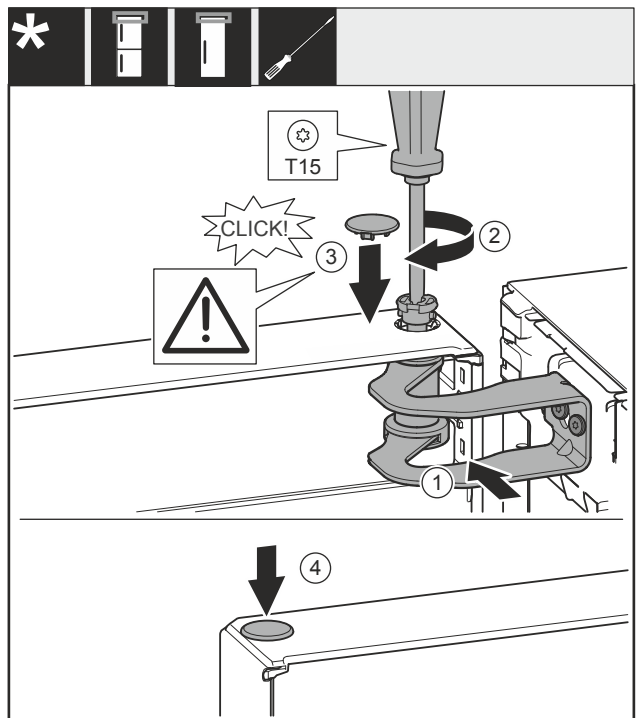

Fig. 57
- Align the door with the opening in the swap bearing block Fig. 57 (1).
- Insert the bolt Fig. 57 (2) and use screwdriver to tighten it.
- ▶ Insert the cover Fig. 57 (3).
- ▶ Check that the cover Fig. 57 (3) is resting on the door.
- ▶ Insert the cover Fig. 57 (4).